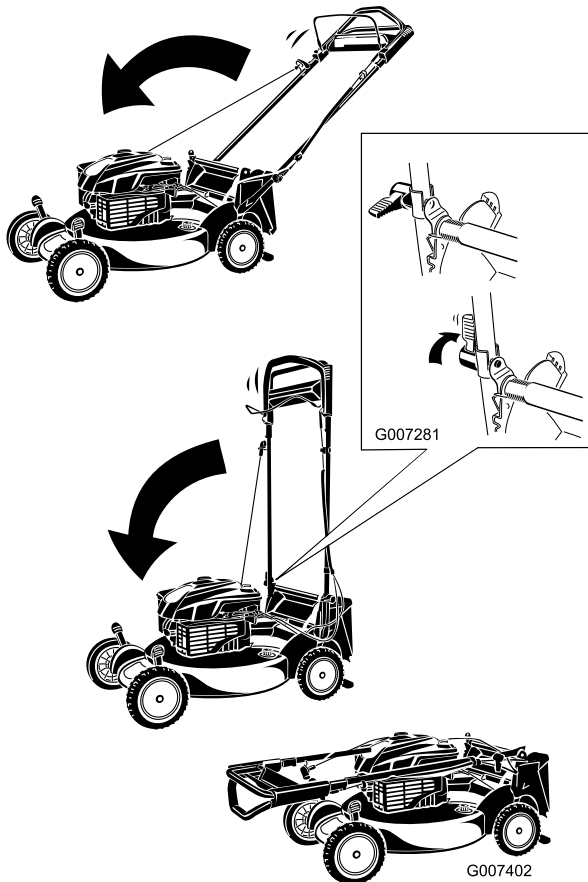

Figure 34
1. Rotate the handle forward (Figure 34).